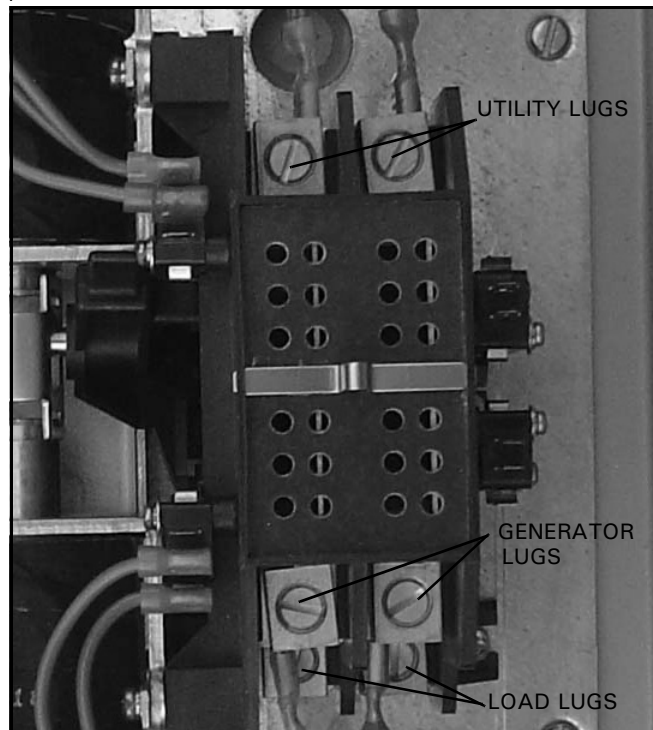

Figure 15. Cable Connection Locations (100 A).
Step 1: Connect cables as follows (see Figures 15 and 16, and Table 2):